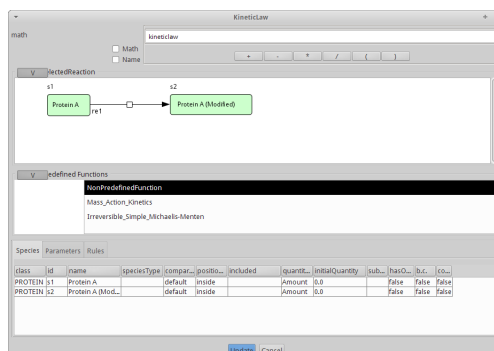

Figure 2:
4. By right clicking on the little square over the arrow you can select "Edit KineticLaw" to assign to a formula to this reaction. You should see the window in Figure 2.